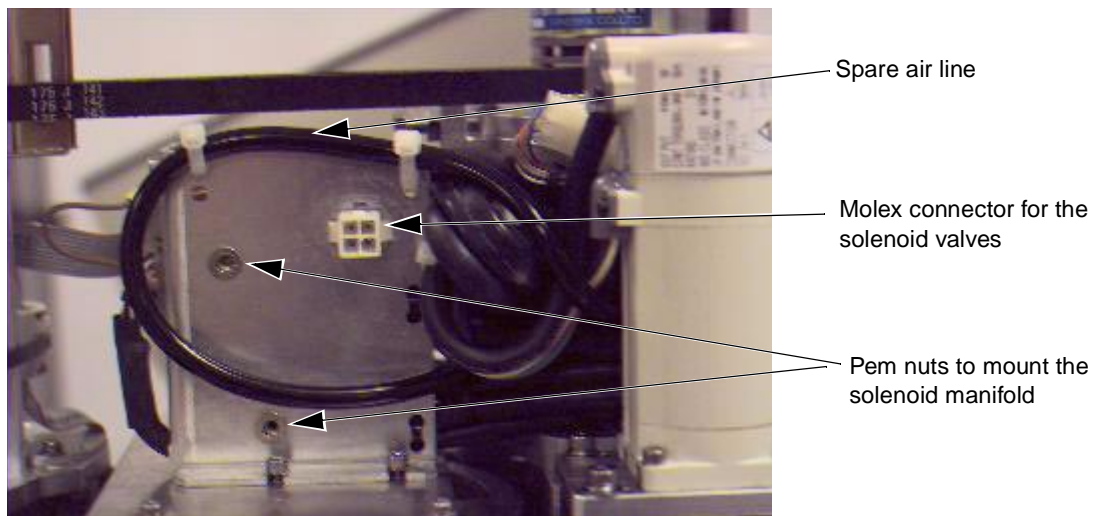

Figure 6-5. Solenoid Mounting Bracket With Connector and Spare Air Line
The robot has been prewired to accommodate a bank of two 24 VDC solenoid valves. Power for the internal mounting is accessible via a Molex connector mounted inside the outer link cover (see Figure 6-5 on page 103). Power for the external mounting is available from the RSC (robot signature card). The signals actuating the valves are directly switchable from V^+ utilizing software signals 3001 and 3002. Refer to the SIGNAL command in the *V⁺ Language Reference Guide* for additional information. Each driver is designed to handle 24 VDC solenoids at a nominal 75 mA per valve.
4. Cut and discard the two tie-wraps holding the spare air line at the top of the mounting bracket. Move the air line away to facilitate the mounting of the solenoid manifold (see Figure 6-5).
7. Plug the Molex connector plug into the female connector jack (marked HV1/2) on the bracket (see Figure 6-5).